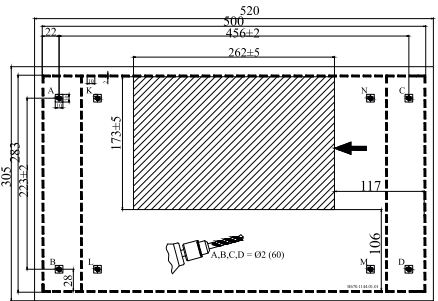

Figure 3 - Installation template
The SL-series range hoods are designed for hidden installation in a kitchen cabinet. Figure 3 below shows the distances between the installation openings for installation in a kitchen cabinet.
- Mark on the bottom of the cabinet and drill 4 holes with diameter  $\varnothing 2$ mm, taking into account the distance between the installation openings specified in Figure 3.